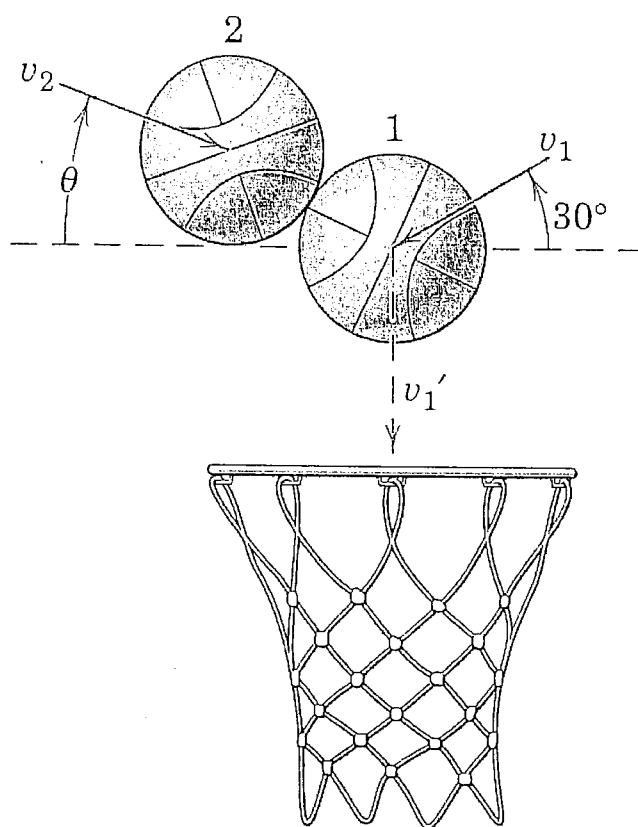

Fig. Q. 11
11. During a pregame warm up period, two basketballs of identical mass and dimensions collide above the hoop when in the positions shown in **Fig. Q. 11**. Just before impact, ball 1 has a velocity v_1 which makes a 30° angle with the horizontal. If the velocity v_2 of ball 2 just before impact has the same magnitude as v_1 , determine the two possible values of the angle, measured from the horizontal, which will cause ball 1 to go directly through the center of the basket. The coefficient of restitution (e) is 0.7. [8]